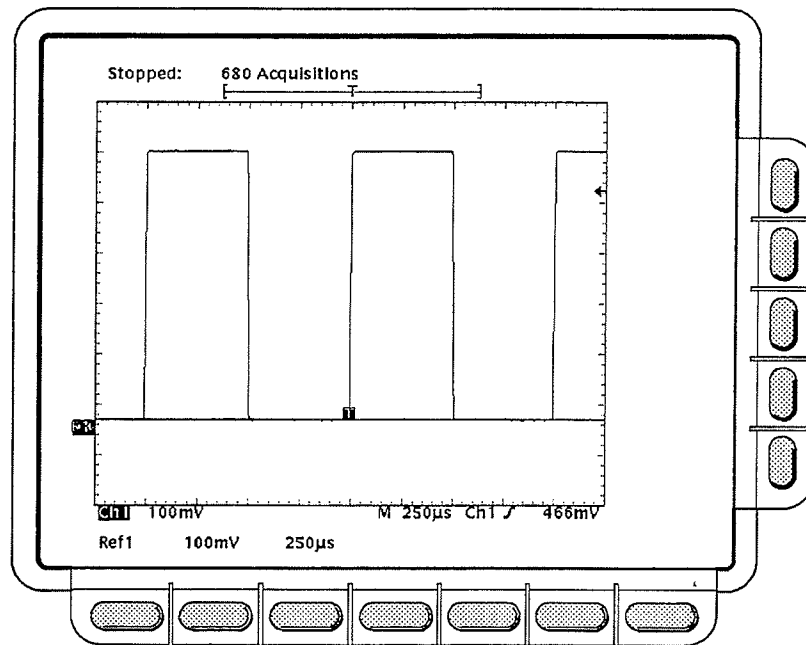

Figure 4-25: Measurement of Probe Compensator Amplitude
- f. Press **CLEAR MENU** to remove the menus from the display. See Figure 4-25.